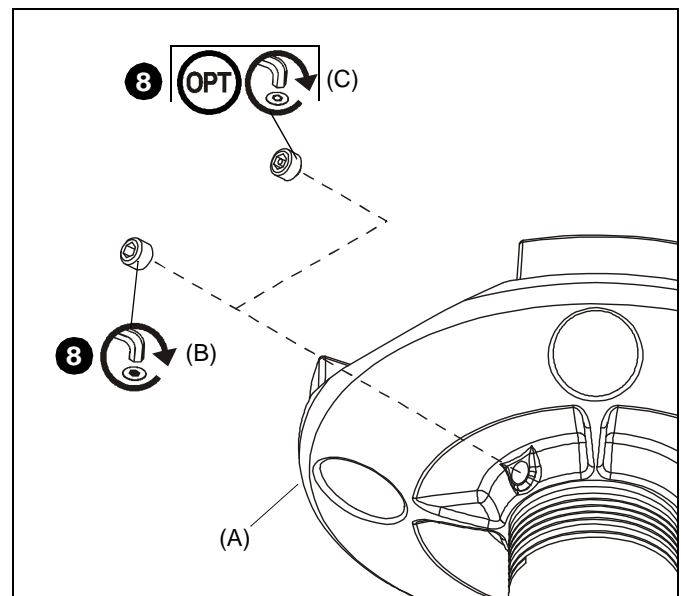

Figure 4
- Using pipe wrench, install 1-1/2" NPT or NPSM following ANSI/ASME B1.20.1 (Schedule 40, 0.154" minimum thickness aluminum - ASTM B221) threaded extension column (not included) into threaded collar of ceiling plate (A) until tight, with a minimum of four threads engaged.
- Using hex key (D), secure extension column by *one* of the following methods (See Figure 4):
- Install one 5/16" x 1/4" set screw (B) into threaded hole, tightening firmly against column.
- OPTIONAL:** Install one 5/16" x 1/4" security set screw (C) into threaded hole, tightening firmly against column.